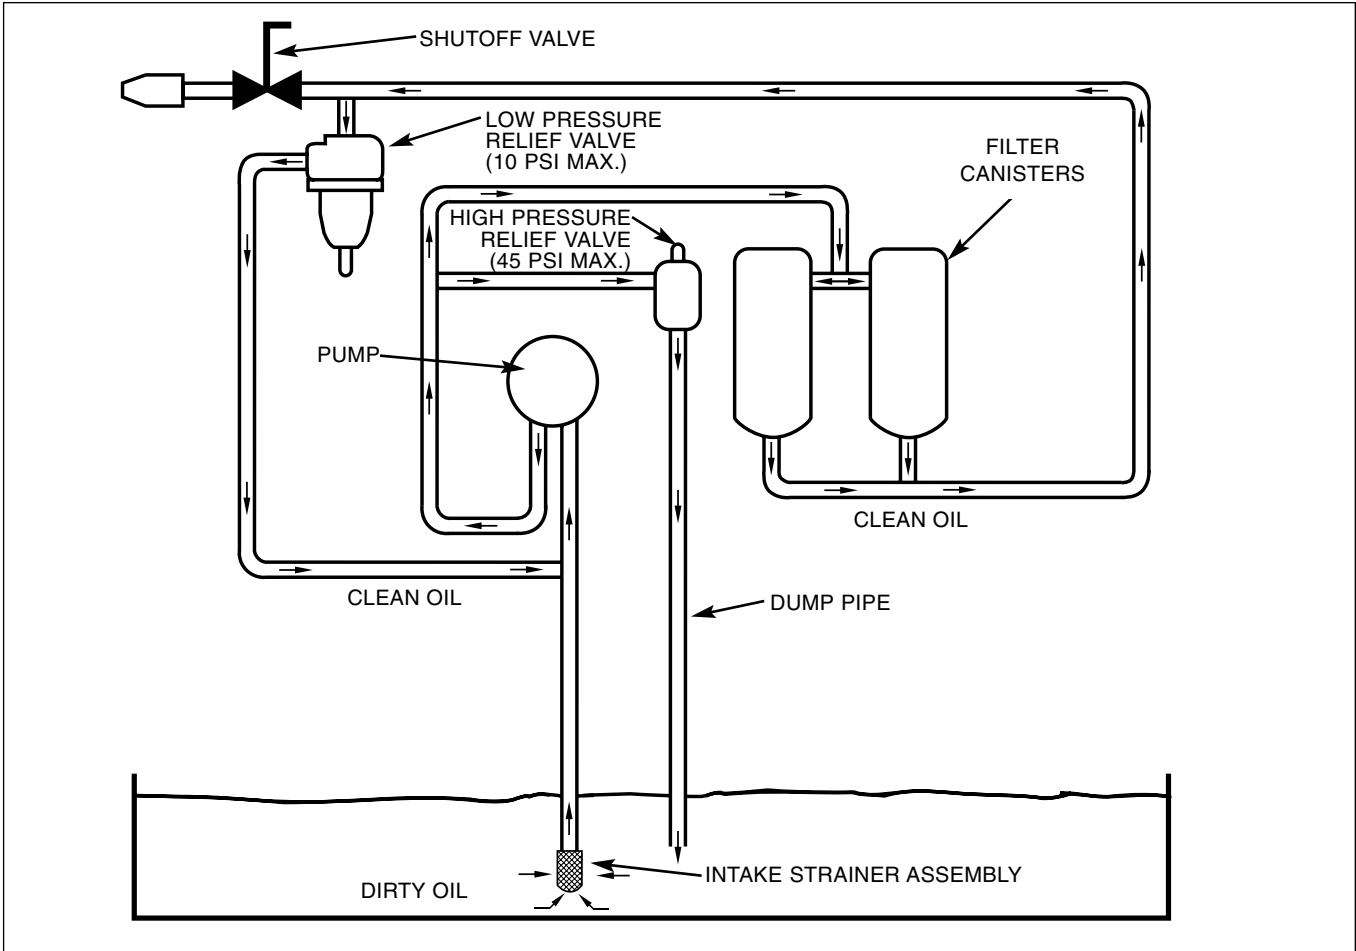

FIGURE 4-8, Coolant Flow Diagram
11. Release “E-Stop” button by turning red knob as arrow indicates. (See Figure 4-8, on page 28.)